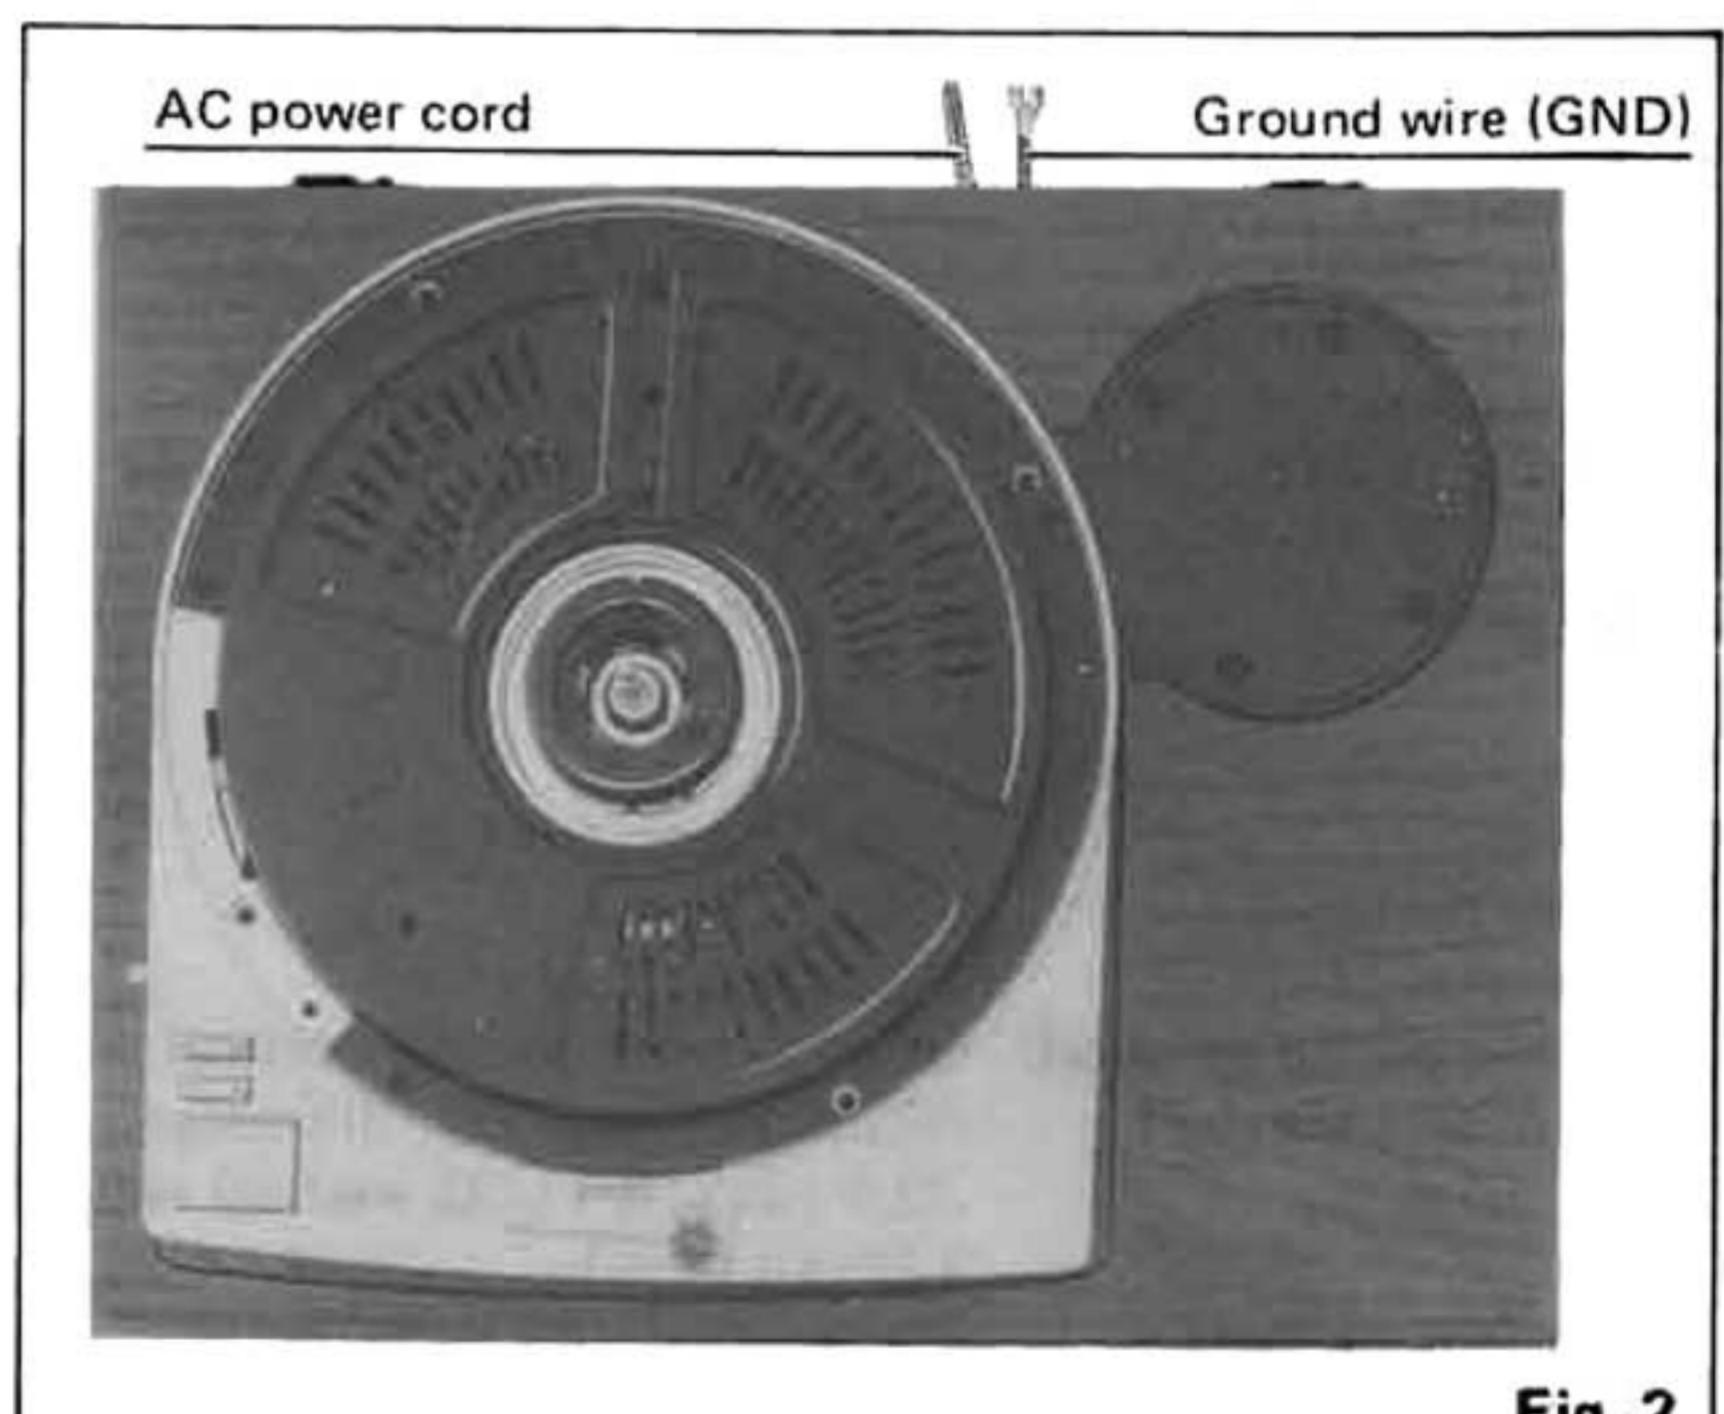

Fig. 2
2. Securely hold at 4 places by the screws supplied with SH-15B2. (See Fig. 2.)